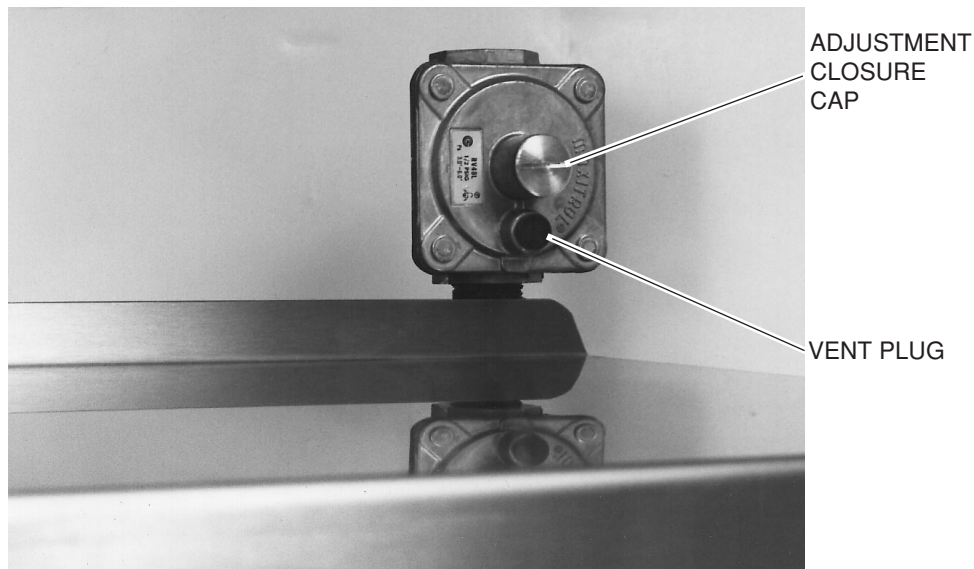

Fig. 1
1. With a screwdriver pry the plastic vent plug form the top of the regulator. (See Fig. 1)